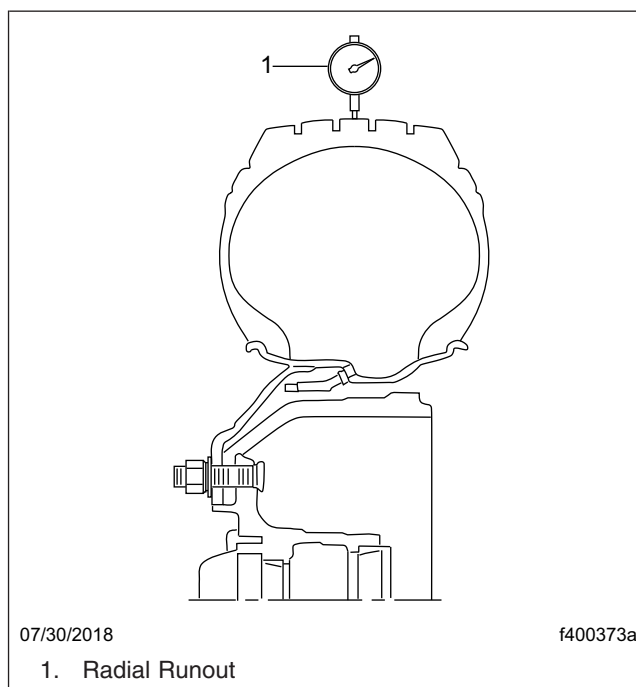

Fig. 7, Radial Runout Check for Tires
4. Beginning with the right-front wheel, use a tire runout gauge to check the radial runout. See Fig. 7. Write down the measurement for later use to avoid vibration complaints.